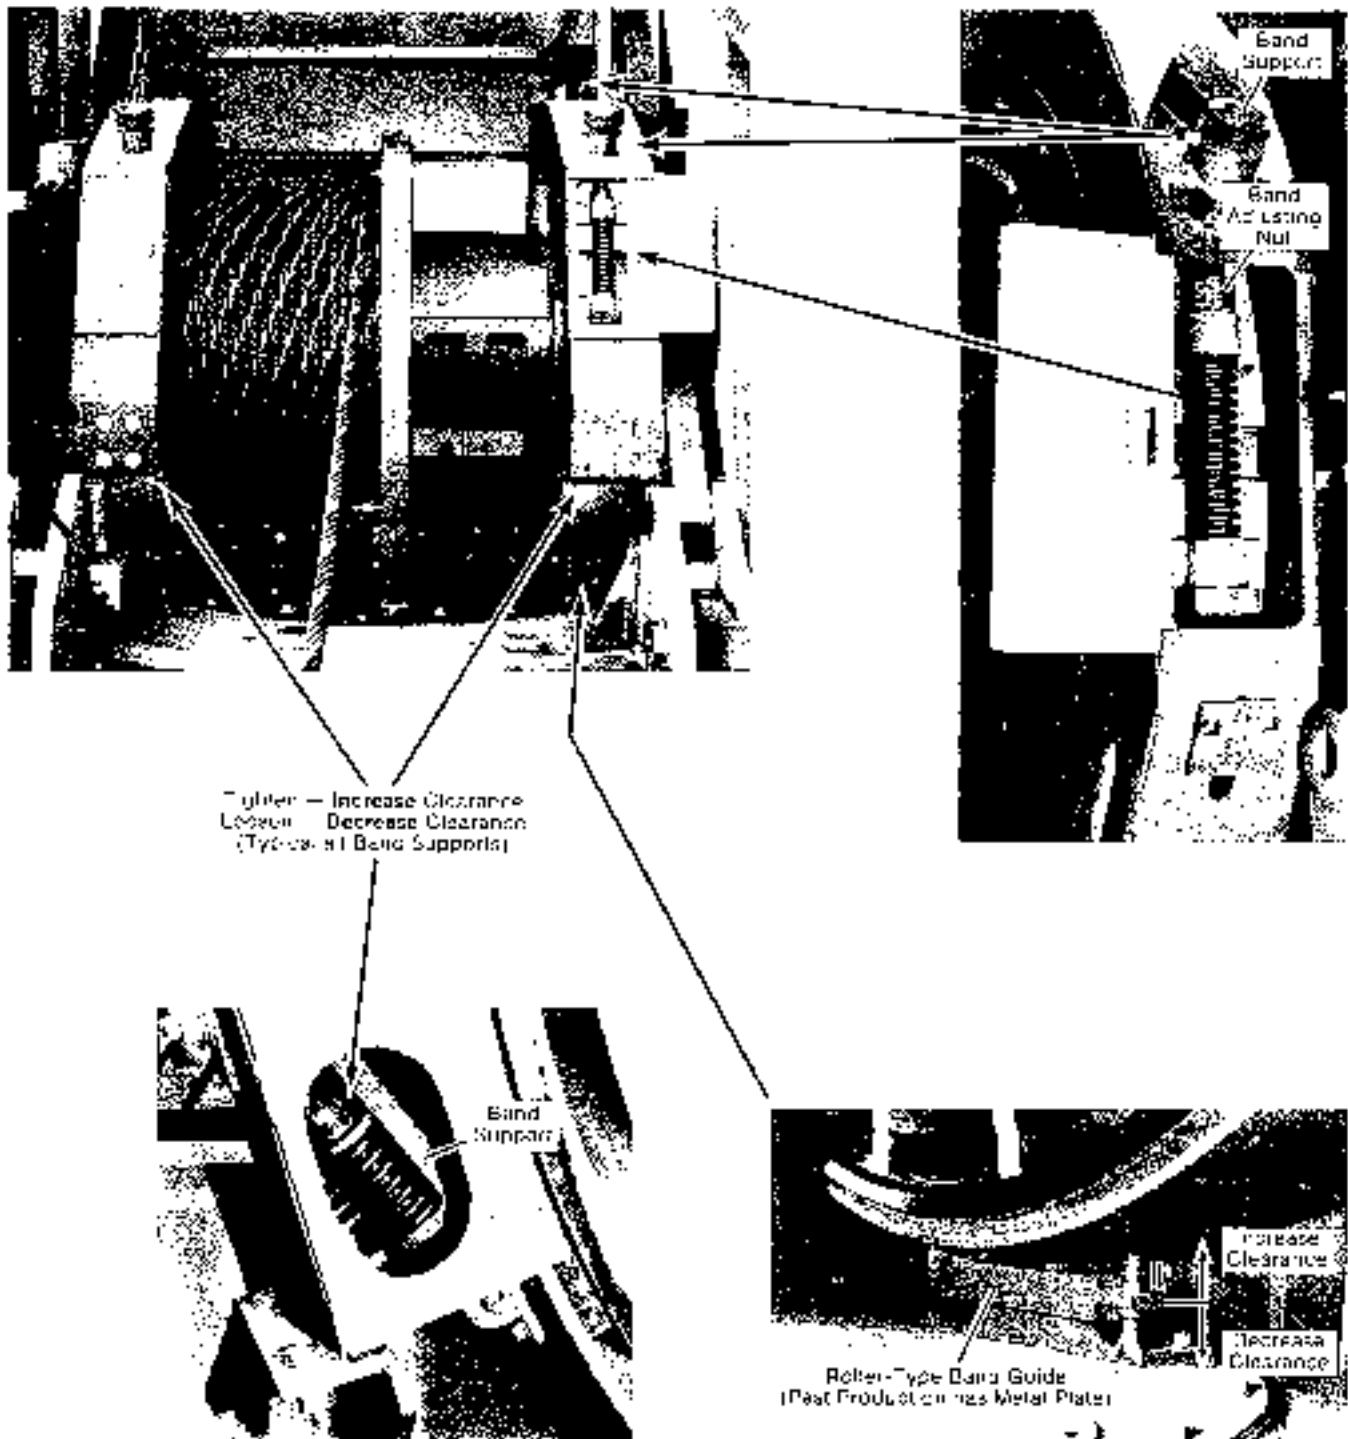

Figure 2. Brake Band Adjustments
4. Tighten the band adjusting nut (see Figure 2) to raise
Drum-to-Lining Clearance (see Figure 2)